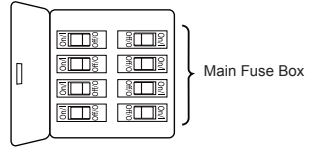
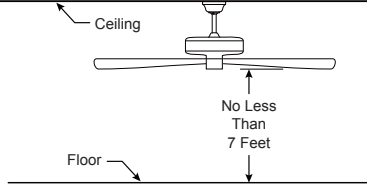
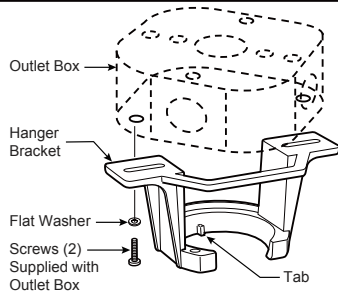

Figure 1
Figure 2
Figure 3
Your new ceiling fan will require a grounded electrical supply line of 120 volts AC, 60 HZ, 15 Amp Circuit. Electrical code requires use of a fan-rated outlet box to support the extra weight and motion associated with a ceiling fan. A fan-rated box will be labeled as such and typically supports up to a 70lb ceiling fan. Fan-Rated Outlet Boxes vary in ratings and design. Ensure the ratings of your ceiling fan outlet box meet the requirements for the ceiling fan being installed. Figure 1, Figure 2 and Figure 3 depicts different structural configurations that may be used for mounting the outlet box.
Low profile box (Figure 1)
Deep box (Figure 2)
Deep box with brace (Figure 3)
1. Remove and discard the three rubber/screws motor stops from the motor assembly. (Figure 1)
2. Remove the hanger ball portion from the downrod/hanger ball assembly by loosening the set screw in the hanger ball until the ball falls freely down the downrod. Remove the pin from the downrod, then remove the hanger ball. Retain the pin and hanger ball for reinstallation in Step 7. (Figure 2)
3. Remove the hairpin clip and clevis pin from the bottom of the downrod. Retain the pin and clip for reinstallation in Step 5. (Figure 3)
1. Secure the three blades using the 1/4"-20 pan head screws with lock washer and blade plates from the hardware bag. Then through the holes located on the bottom of the motor assembly. (Figure 1)
To avoid possible fire or shock, be sure electricity is turned off at the main fuse box before hanging. (Figure 1)
The fan must be hung with at least 7' of clearance from floor to blades. (Figure 2)
1. Securely attach the hanger bracket to the outlet box (not included) using the outlet box screws and washers supplied with the outlet box. (Figure 3)
1. To set the code on receiver unit, slide dip switches to the same positions as set on the remote control. (Figure 1)
To avoid possible electrical shock, be sure electricity is turned off at the main fuse box before wiring. (Figure 2)
2. Slide the receiver into the hanger bracket before wiring as shown in figure 3.
1. Assemble canopy by rotating key slot in canopy over shoulder screw in hanger bracket, taking care not to pinch the wires. Tighten shoulder screw. Fully assemble and tighten second shoulder screw that was previously removed. (Figure 1)
2. Securely attach and tighten the canopy screw cover over the shoulder screws in the hanger bracket utilizing the key slot twist-lock feature. (Figure 2)
1. Connect the 2 pin connectors from the light kit assembly to the 2 pin connectors from the motor assembly. (Figure 1)
2. Secure the light kit assembly to the motor assembly by twisting in a clockwise direction. (Figure 2)
1. IMPORTANT: Using a full range dimmer switch (not included) to control fan speed will damage the fan. To reduce the risk of fire or electrical shock, do not use a full range dimmer switch to control the fan speed. (Figure 1)
2. Restore electrical power to the outlet box by turning the electricity on at the main fuse box. (Figure 2)
3. Remove the battery cover from remote control by screwdriver and retain the screw for later. (Figure 3)